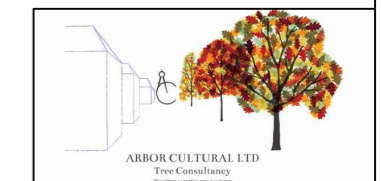

Figure 1 Fence Specification Soft Ground
- 1.4 They must be constructed as per Figures 1 and 2 in BS 5837 2012 and be fit for excluding any construction activity. Any other fence or barrier used must be fit for the purpose.